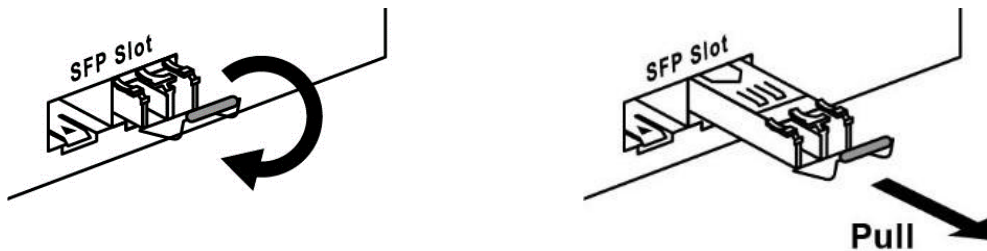

Figure 2.8 - Pull Out from the SFP Module
Step 2 - Push down the metal clasp and pull the transceiver out by the plastic part as shown below in Figure 2.8.